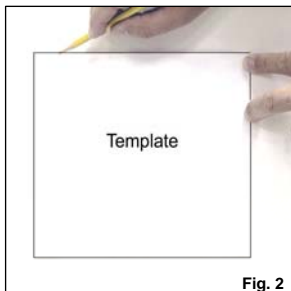

Fig. 2
- Fig. 2** Using the template supplied (see page 2 of instruction sheet), trace the opening needed. Using a drywall knife, cut a hole in the drywall the size of the template. See Figure 1 before tracing your opening.